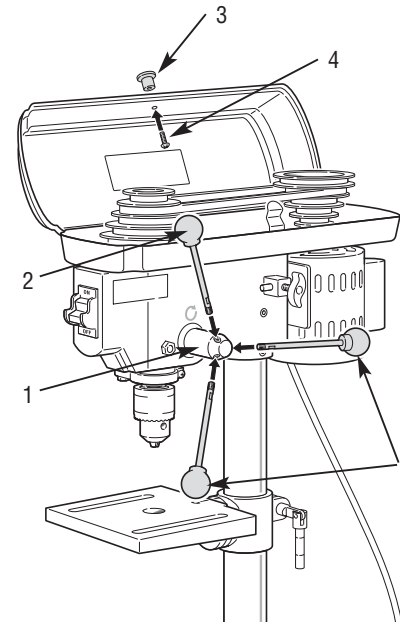

FIGURE 5.
1. Insert the three drill press feed handles (2) into the tapped holes on the pinion shaft (1). See Figure 5.
2. Using a Phillips screwdriver, insert screw (4) into knob (3) and install it on the drill press cover.